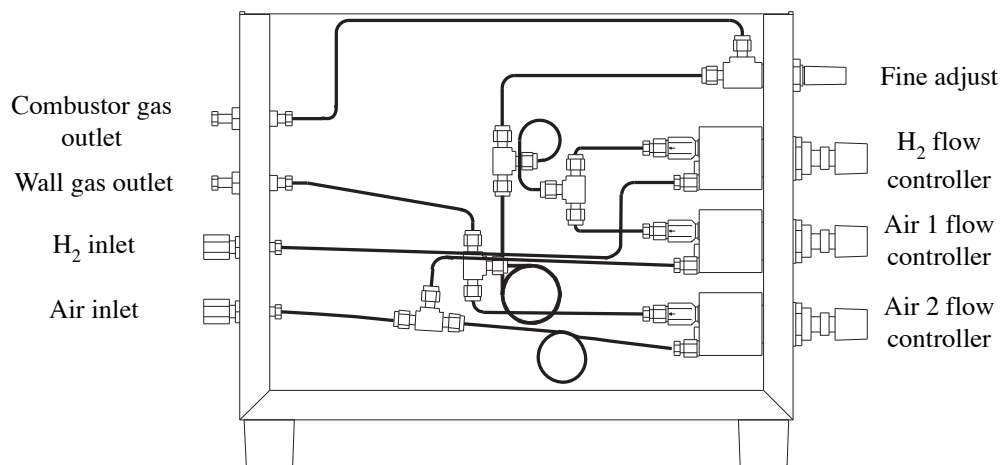

Figure 4.18. Internal View: Manual Gas Flow Controls in the Detector Controller
3. Connect the regulated air supply to the air inlet connector and the regulated H₂ supply to the H₂ inlet connector using the supplied 1/8" nut and ferrule (Figure 4.18). Push the gas lines into the connector as far as they can go before tightening the nuts onto the connector. Securely tighten the 1/8" nut using a 7/16" wrench.
7. Gently turn the fine adjust needle valve to the off position (clockwise) (Figure 4.18). Do not tighten down as this can damage the needle. Then open the valve 4 full turns counterclockwise.
8. Set the Air 1 and Air 2 flow controllers as well as the H₂ flow controller to the off position (fully clockwise) (Figure 4.18).